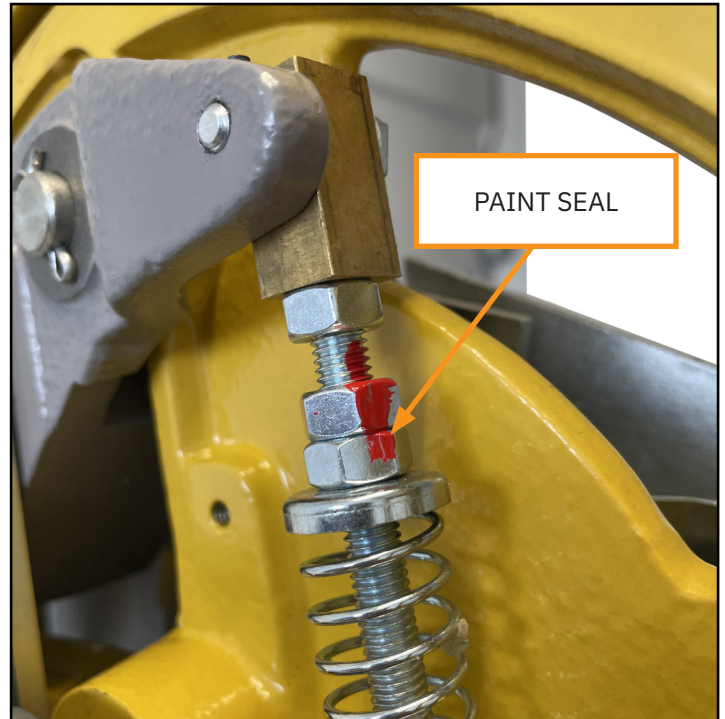

Figure 1
2. Check and ensure that all the Paint Seals are intact (see figures 1,2&3). Governor is calibrated and sealed from the factory and if any of the seals are tampered with or missing, do not use the unit. In this instance, unit has to be checked for calibration.